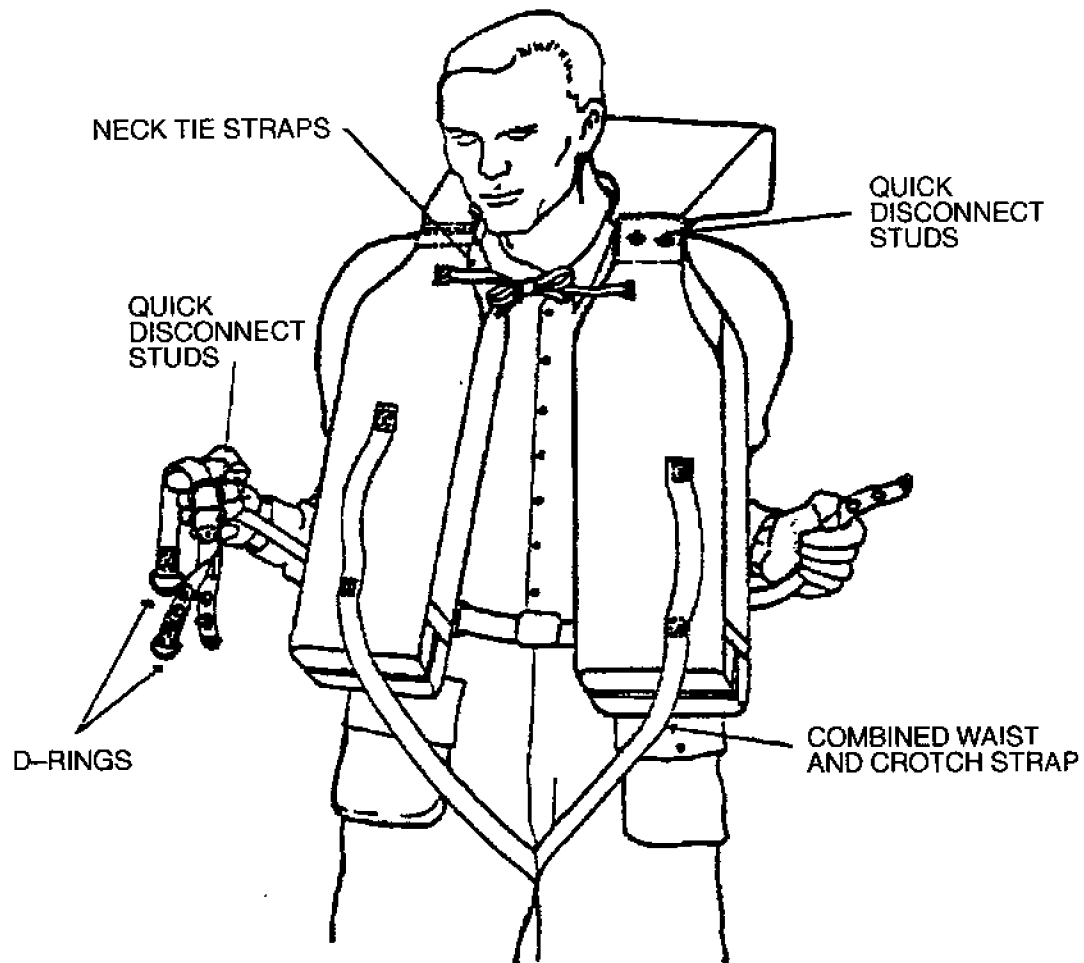
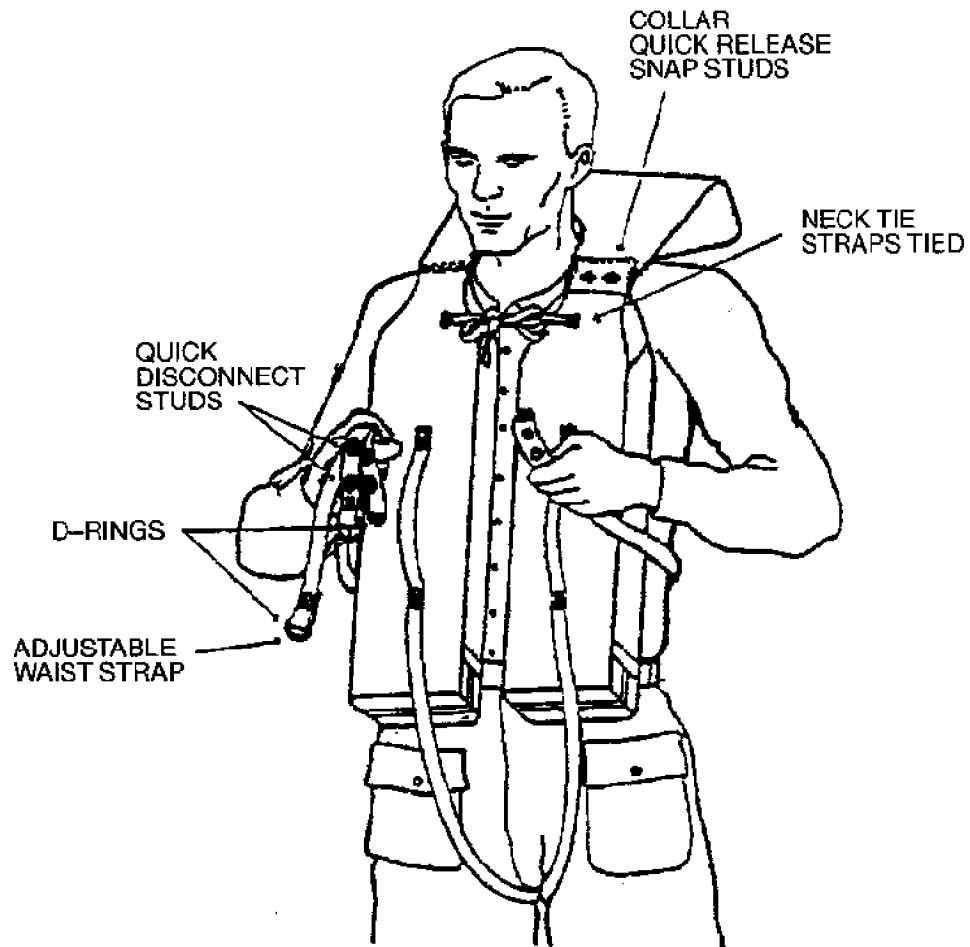

Figure 077-2-6. Yoke Type Life Preserver, Arrangement of Neck Tie Straps, Waist and Crotch Strap
Figure 077-2-7. Yoke Type Life Preserver, Quick-Disconnect Studs and D-Rings
3. Secure the tie straps around the neck with a bow knot. **Never tie a square knot**. Neck tie straps are tied, as shown in Figure 077-2-6.
4. Pass combined waist and crotch strap through the legs from front to rear. Pass the strap around to front of the body and under the segment of strap stitched to life preserver. See Figure 077-2-6 and Figure 077-2-7.
5. Attach the quick-disconnect studs (see Figure 077-2-7) together.